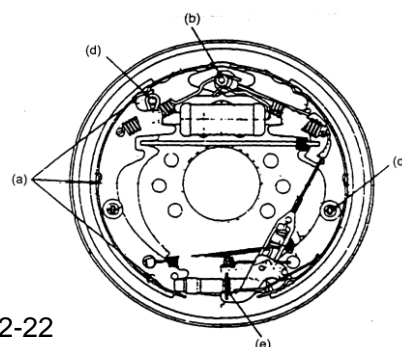

Fig.2-22
- (1) Apply brake fluid to the piston and the piston cup, and reinstall the spring, the piston, cup and the dust cover in this order.
- (2) Install the operating cylinder on the backing plate.
- (3) Install the backing plate on the front axle.
- (4) Apply grease on the points indicated in Fig.2-22, with care not to contaminate the friction piece with grease.